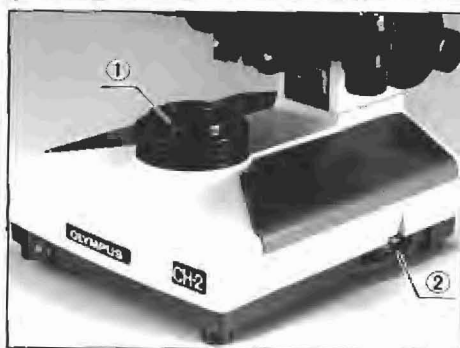

Fig. 29
- 2) Slip a 45LBD-2N filter into the filter mount ① at the light exit on the microscope base. (Fig. 29)
- 3) Turn the voltage control dial ② until the dial is aligned at the graduation "10" (maximum), and daylight color can be obtained. (For CHS only).